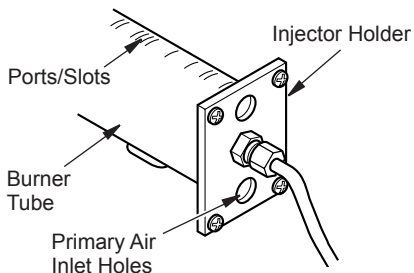

Figure 42 - Injector Holder On Outlet Burner Tube
2. Inspect burner, pilot and primary air inlet holes on injector holder for dust and dirt (see Figure 42).